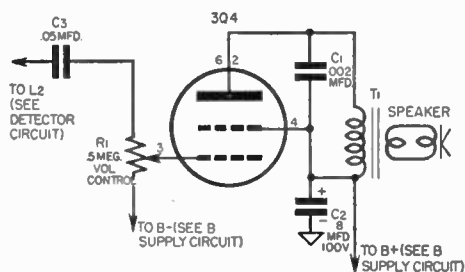

Fig. 8-18. Output circuit.
c) Output Circuit. See Figure 8-18.